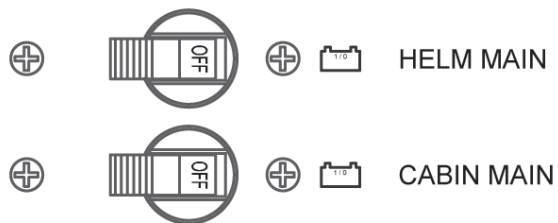
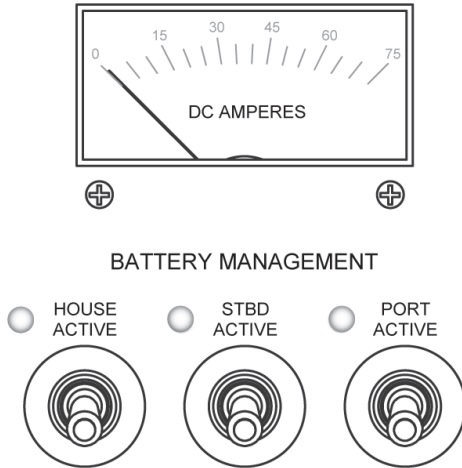

Figure H22: Helm & Cabin Main Circuit Breakers - "OFF"
Figure H23: Battery Activation Switches - "OFF"
1. On the 12VDC cabin panel, turn the HELM MAIN and CABIN MAIN circuit breaker switches (applicable models) to the "OFF" position. See Figure H22. Switch the HOUSE ACTIVE, STBD ACTIVE and PORT ACTIVE switches to the "OFF" position. See Figure H23.